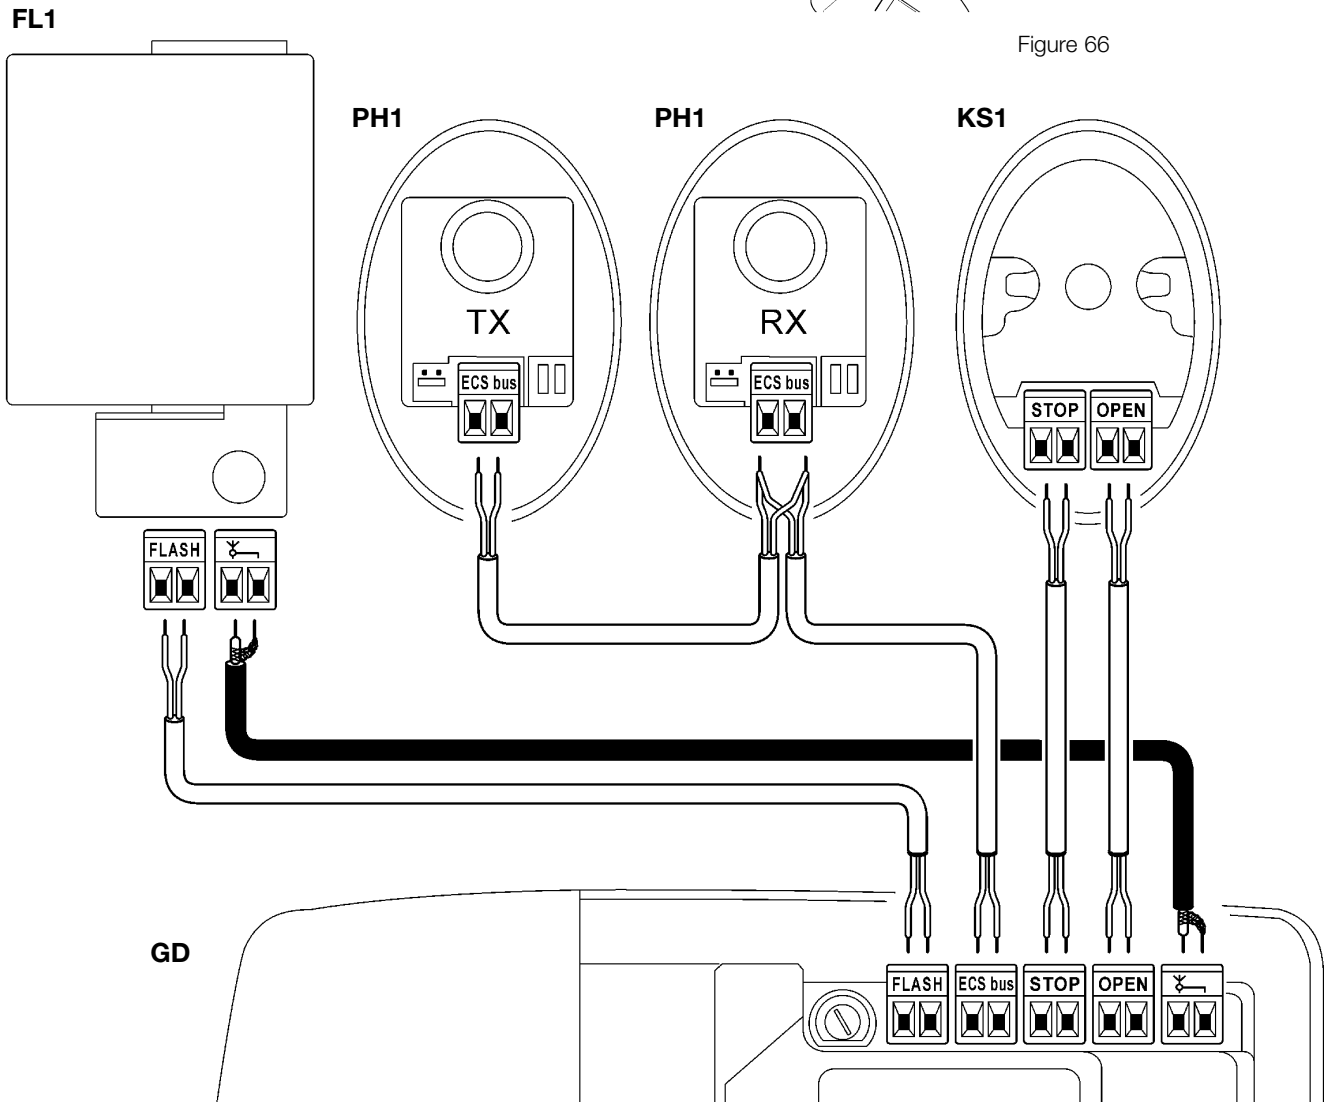

Figure 65
3 Refer to figure 65 for the electrical extra low voltage connection of the various devices to the control unit terminals.
- For most connections you do not need to observe any polarity; only for the shielded cable of the aerial incorporated in the FL1 flashing light (optional accessory), it is necessary to connect the central core and the shield as shown in figure 65.
**1** Prepare the technical documentation for the automation, which must include at least: assembly drawing (e.g. figure 1), wiring diagram (e.g. figure 65), analysis of hazards and solutions adopted, manufacturer’s declaration of conformity of all the devices installed. For GD use Annexe 1 “EC Declaration of Conformity of the GD components”